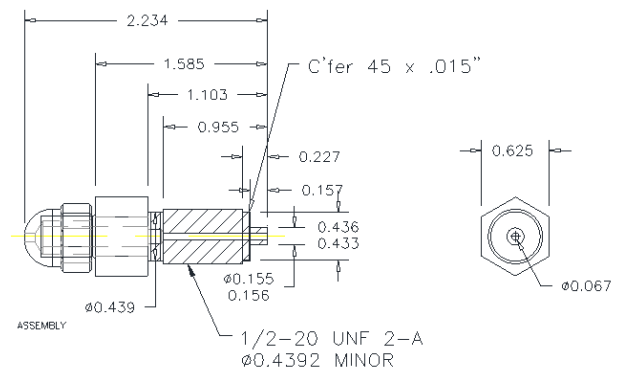
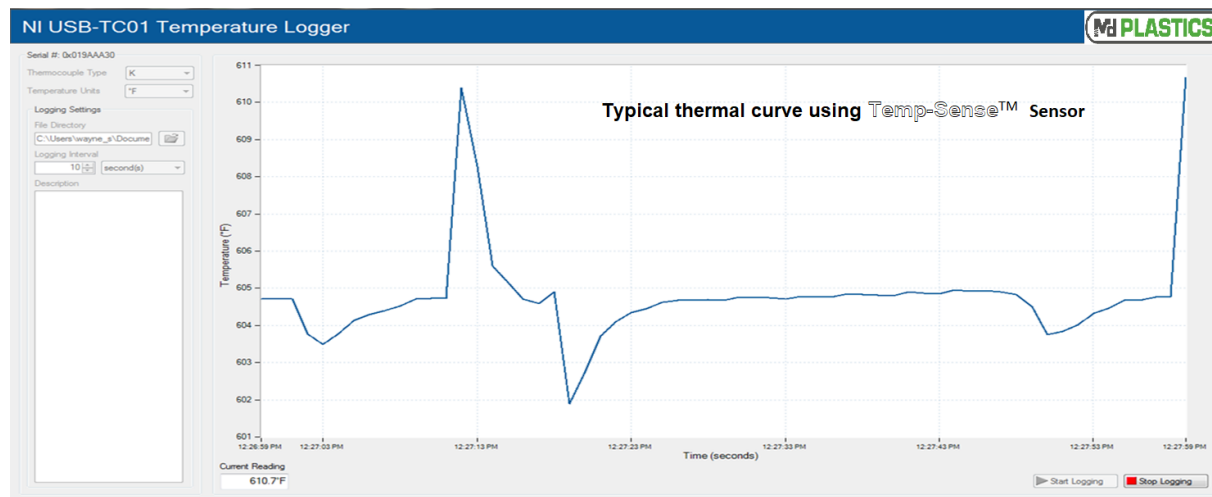

Fig. 1 ( Nozzle Sensor)
Fig. 2
The Temp~Sense™ Melt sensor Fig. 1 takes the applied pressure (P) by the melt and measures the work applied to the polymer. The actual thermocouple meter readout displayed in our MPII DAQ unit shows the thermal energy being imparted to the polymer instantaneously for a unique "LOOK" Fig. 2, into the barrel.
- I. One stand alone MP II DAQ capable of reading two sensors . One Temp-Sense™ Nozzle Sensor (shown in fig. 1, 3).